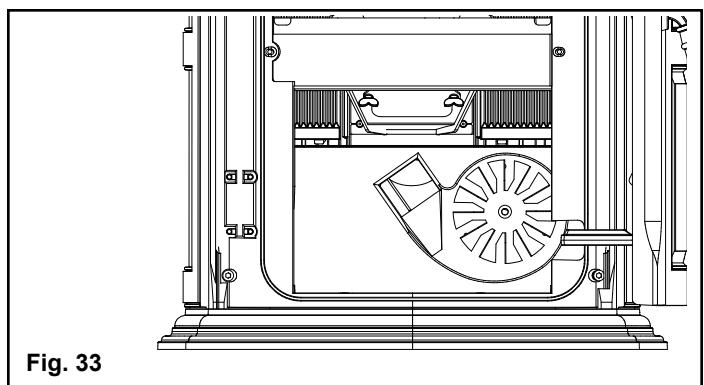

Fig. 33
3. The units interior is now ready to clean. Use the scraper provided to clean the heat exchanger surfaces. A wire brush or short bristled brush is an excellent cleaning tool. Clean the fan blade and combustion blower fan housing. NOTE: Be careful not to bend the fan blade while cleaning. A bent blade will throw the fan blade out of balance. Fig. 33.